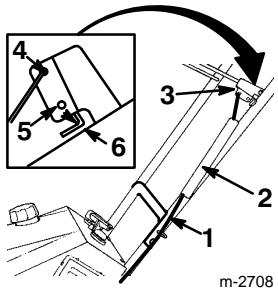
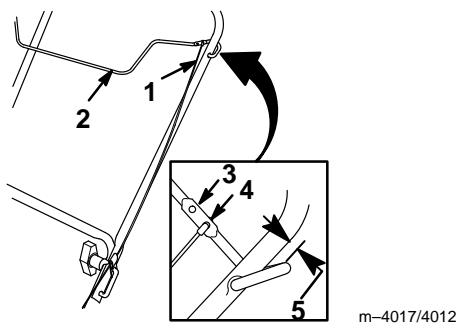

Figure 7
Figure 8
4. Insert the loose end of the control cable into the top hole of the control bar as illustrated in Figure 7 (models 38413 and 38419) or into the bottom hole as illustrated in Figure 8 (models 38439, 38440, and 38445).